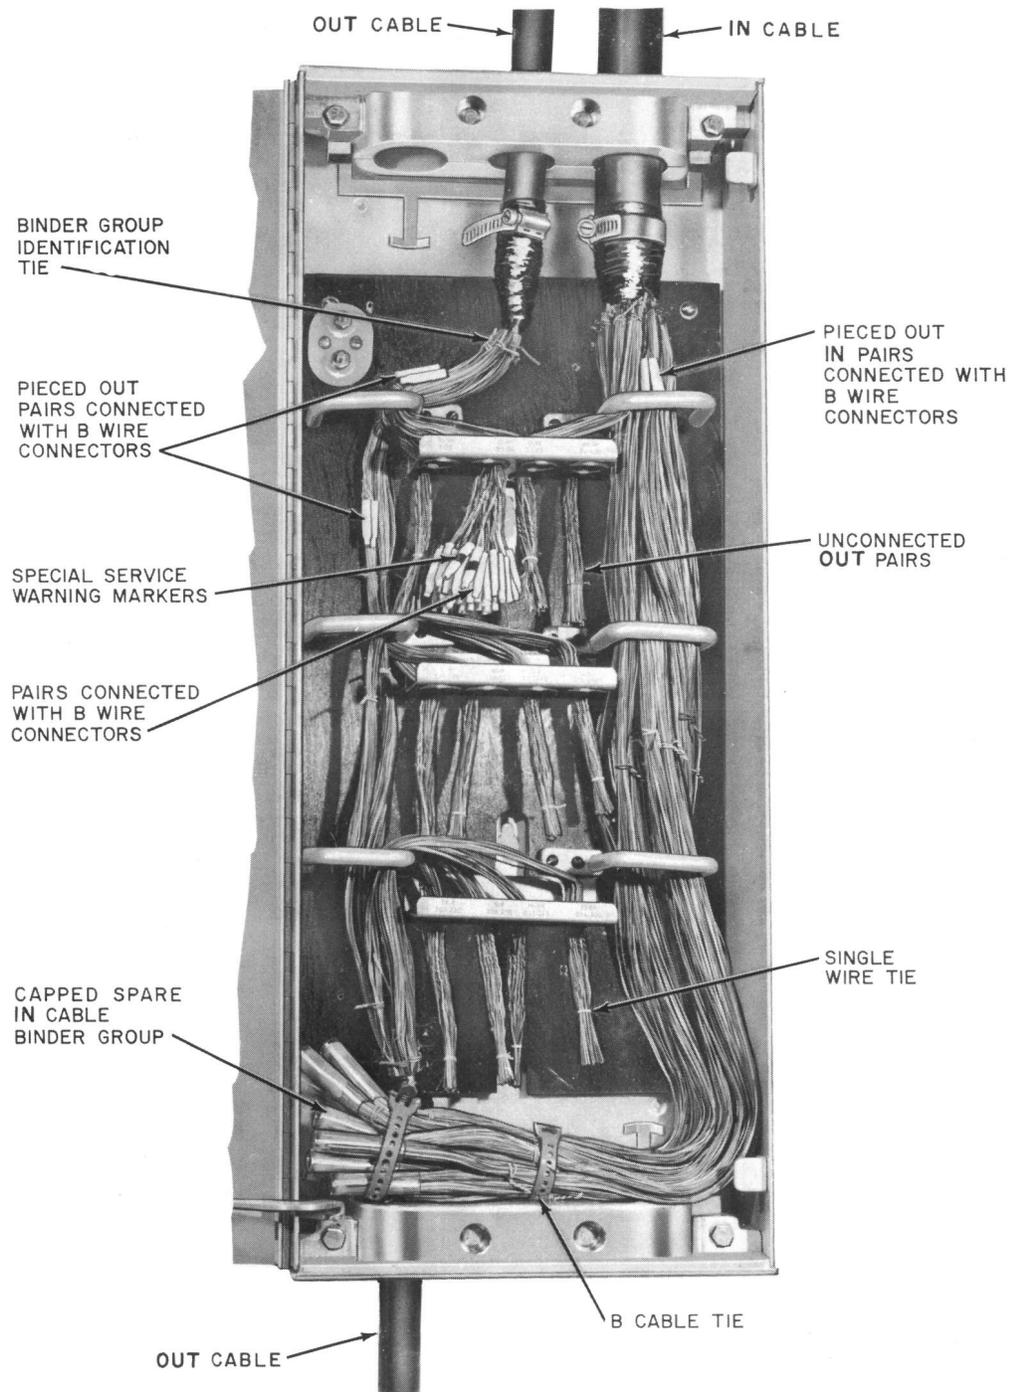
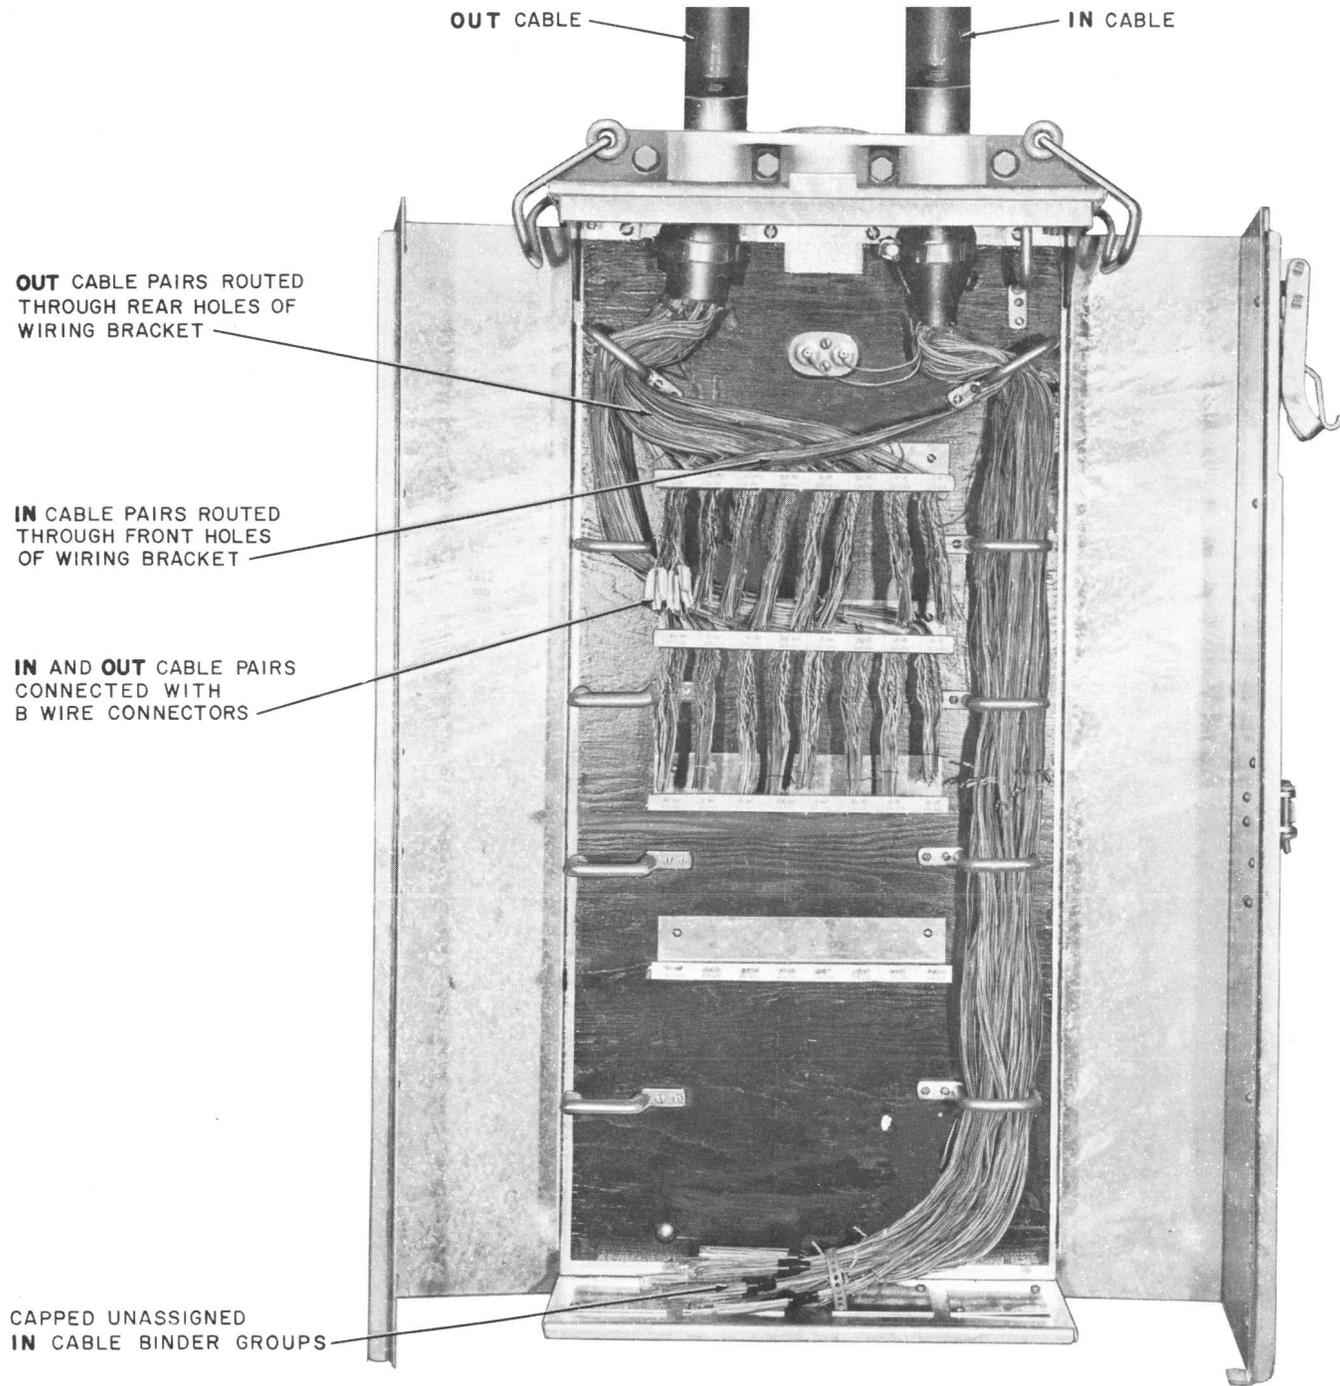

Fig. 3—5-Type Closure
Fig. 4—29-Type Cabinet
- Revise Fig. 3 to show changes to 5-type closures
- (b) **Pole- and Wall-Mounted Access Points**—The 5-type closures (Fig. 3) and the 29-type cabinets (Fig. 4) are used to enclose pole- and wall-mounted access points.
4.01 When cable pairs are used for special services, it will be necessary to identify the circuits at the time the pairs are connected by wrapping a red warning marker tape around each B Wire Connector as shown in Fig. 3.